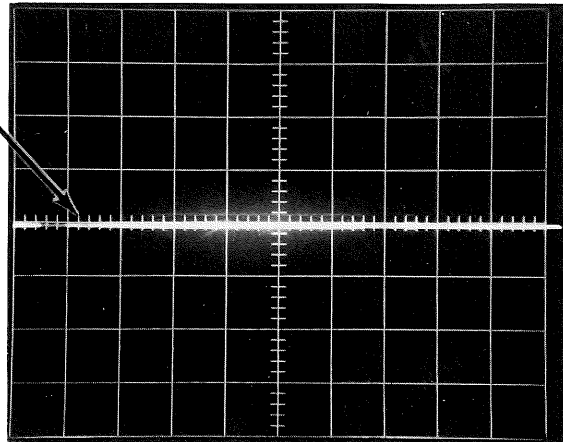

Figure 7-8
3. Adjust the START MANUAL control so the Start to Stop zone starts 1 cm to the left of the first graticule line. See Figure 7-8.